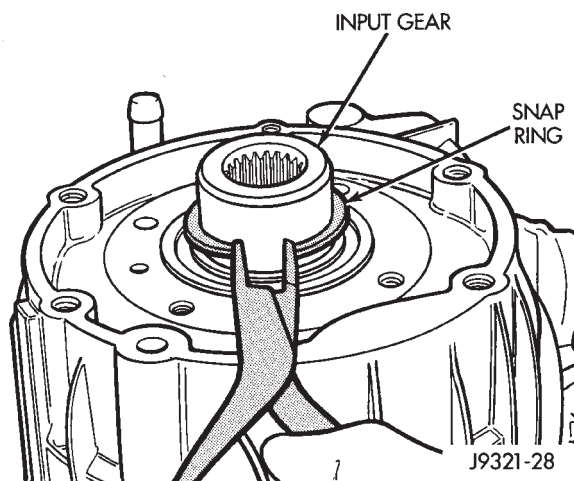

Fig. 28 Removing Input Gear Snap Ring
(29) Remove snap ring that retains input gear shaft in front bearing (Fig. 28).